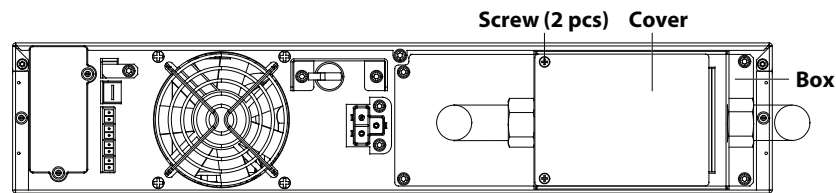

Figure 22: Installing the cover
10. Use two box assembly screws to install the cover onto the box, as shown in Figure 22.